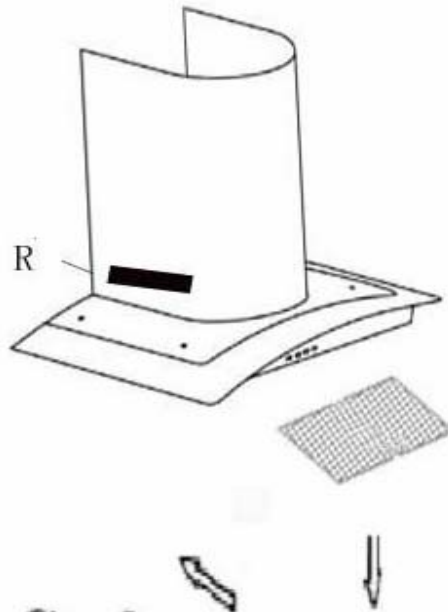

Fig. 2
- ✓ Remove the metal anti-grease filters (see Figure 2 below) and find the old bulb located in the light fixture up inside the exposed canopy. Change the halogen bulb using only olive-shaped spares with an G4 coupling, max. 20W.
- 1) Press the handle of the metal grease filter towards the rear part of the unit until it is released from the front housing, and remove it by pressing downwards (Fig. 2 - below).